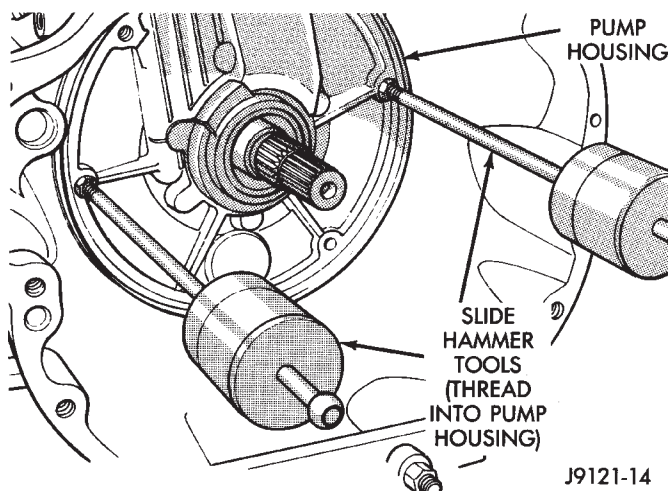

Fig. 103 Oil Pump Removal Tools
- (c) Thread Slide Hammer Tools C-3752 into threaded holes in flange of oil pump housing (Fig. 103).